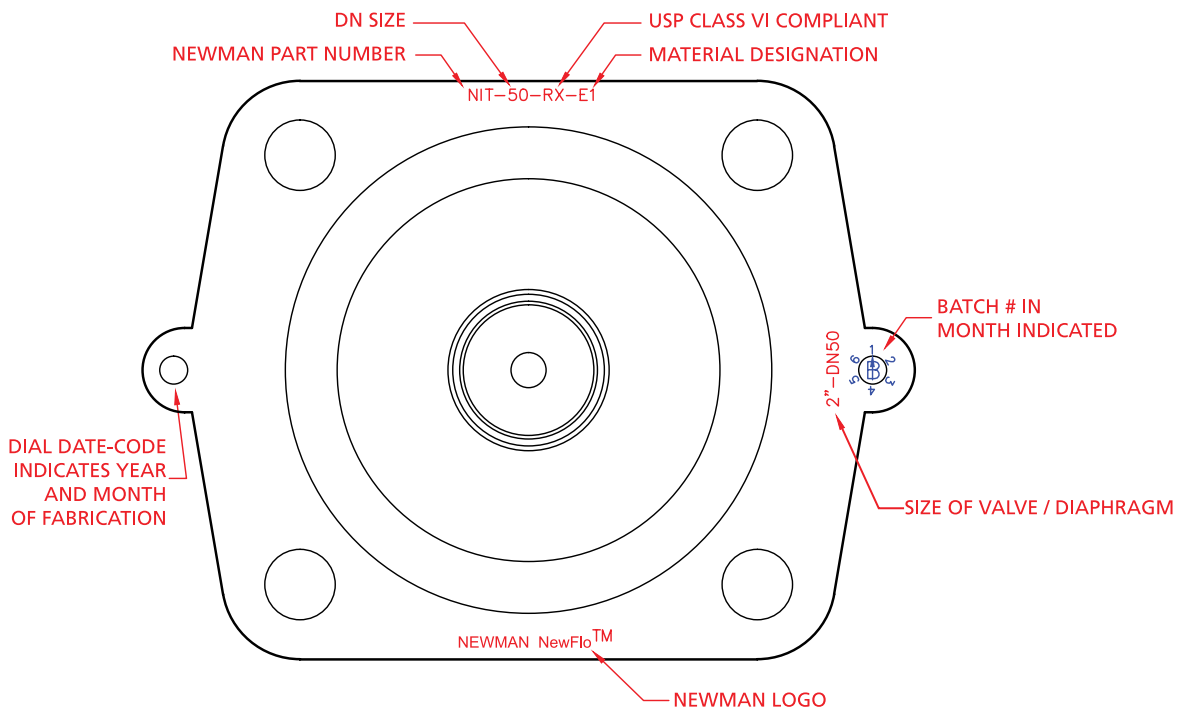

Figure 2 – Identifying the Diaphragm
4. Check to make sure that the replacement diaphragm is the same size and material as the old diaphragm. See OEM manual for help in identifying the old markings. Newman diaphragm marks can be found in **Figure 2** below. Two piece and one piece diaphragms are not interchangeable on ITT® diaphragm valves (see OEM Literature).